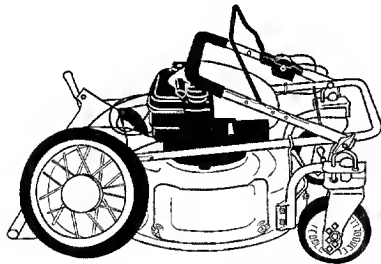

Figure 18
- You can fold your mower's handle for convenient storage as shown in Figure 18.